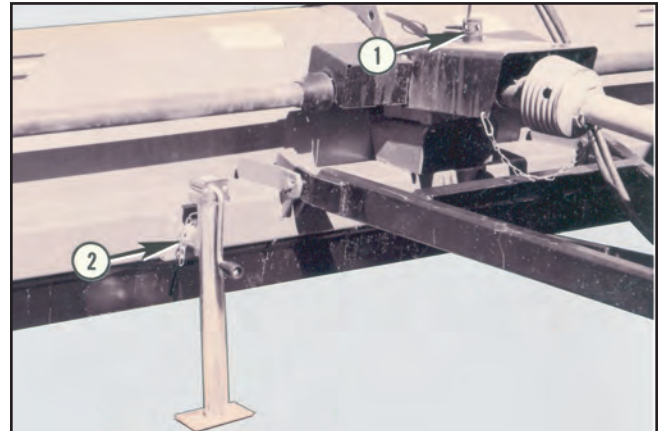

FIGURE 55
With unit attached to tractor, remove hitch jack from storage position on top of gearbox at (1) and insert on pivot provided on right side of unit at (2) (see figure 55). Adjust jack to remove unit weight from hitch and tractor drawbar.